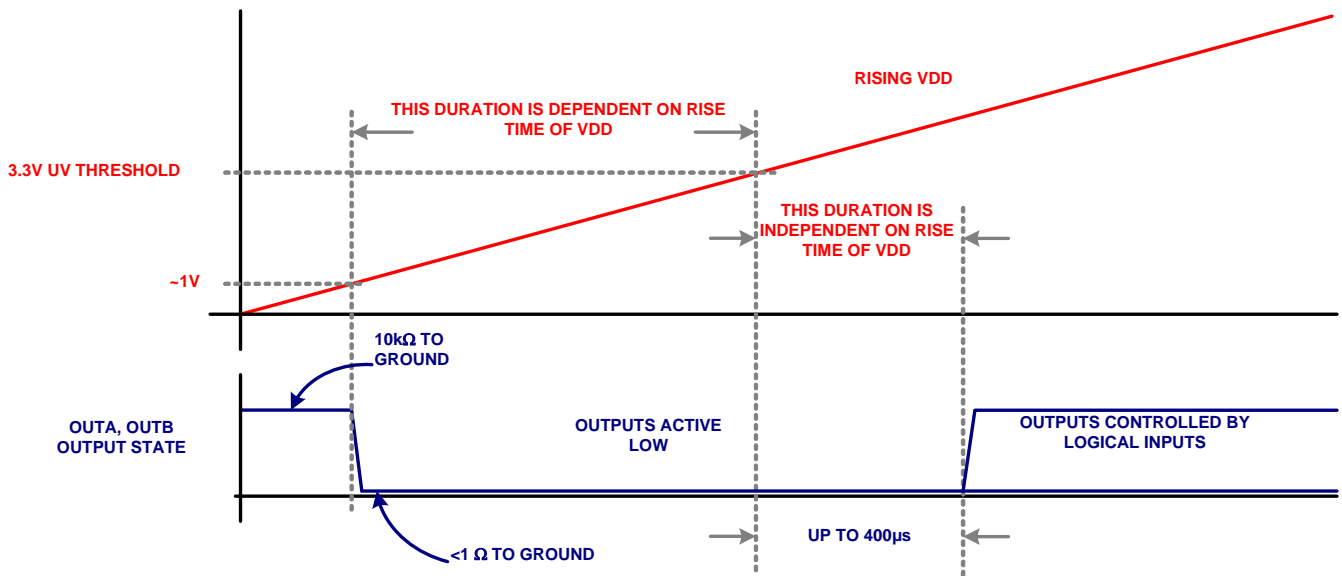

FIGURE 9. START-UP SEQUENCE
- A 400 μs delay further inhibits the release of the output state when the UV positive going threshold is crossed. See Figure 9
When $\sim 1V < V_{DD} < UV$, both outputs are driven low while ignoring the logic inputs. This low state has the same current sinking capacity as during normal operation. This insures that the driven FETs are held off even if there is a switching voltage on the drains that can inject charge into the gates via the Miller capacitance. When $V_{DD} > UVLO$, and after a $400\mu s$ delay, the outputs now respond to the logic inputs. See Figure 9 for complete details.